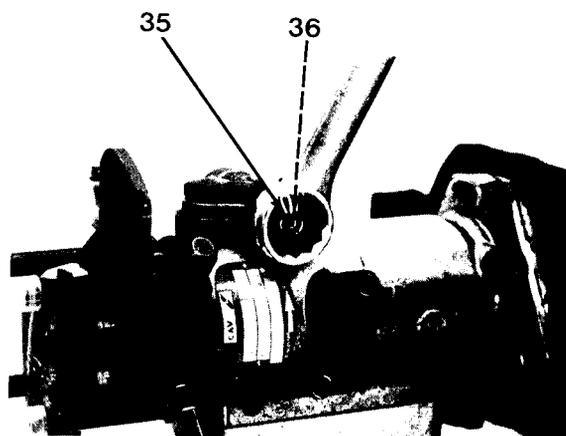

Figure 7-22
9. Install spring cap and O-ring (35) with spring and shims (36, Figure 7-22) into timing housing, using the number of shims recorded during disassembly. Torque spring cap (35) to 17.5 lb-ft (23.7 N•m).